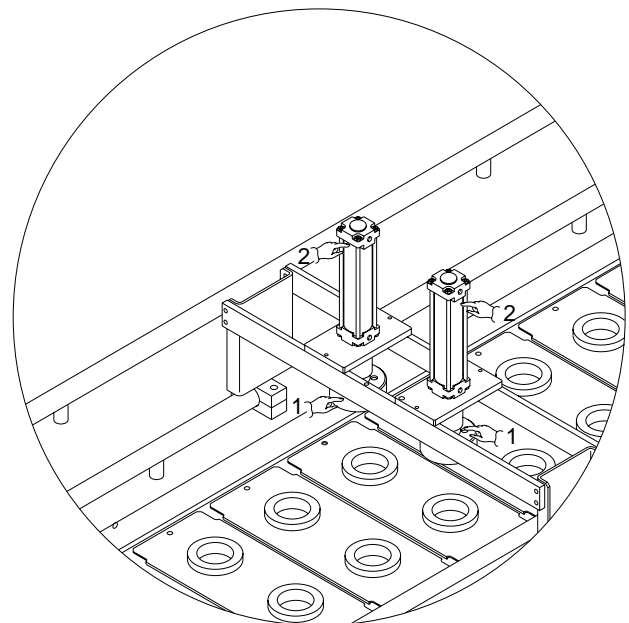

Fig. 6.11
The dosing station is activated by pressing “ice cream doser” buttons  (*Fig. 6.11*) which automatically close the bypass.
This station consists of crimping tools (*Part. 1, Fig. 6.11*) mounted on the structure and controlled by pneumatic actuators (*Part. 2, Fig. 6.11*).
The downward movement induced by the pneumatic actuators (*Part. 2, Fig. 6.11*) brings the crimping tools (*Part. 1, Fig. 6.11*) into contact with the cones and lids, allowing the lids to be fixed in position.
- b. Press the chocolate tank heater button A1 (Fig. 6.11).
- g. Position the bypass valves to feed the dosers by pressing button A2 (Fig. 6.11).
- i. Press the run and doser start-up buttons   (Fig. 6.11). The lamellas will start moving in synchrony with the dosing.